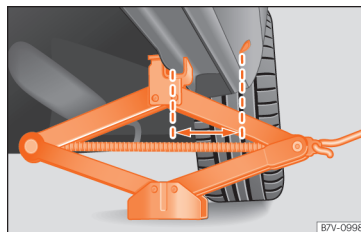

Fig. 48 Jack mounted on the left rear part of the vehicle
- Turn the jack crank handle, located below the strut support point, to raise it until the tab » **Fig. 48** is below the housing that is provided.